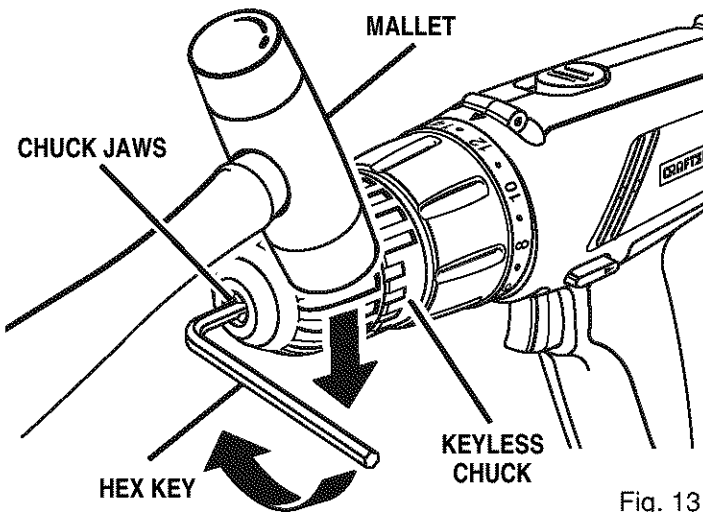

Fig. 13
See Figures 13, 14, and 15.
- Tap the hex key sharply with a mallet in a clockwise direction. See Figure 13. This will loosen the screw in the chuck for easy removal.